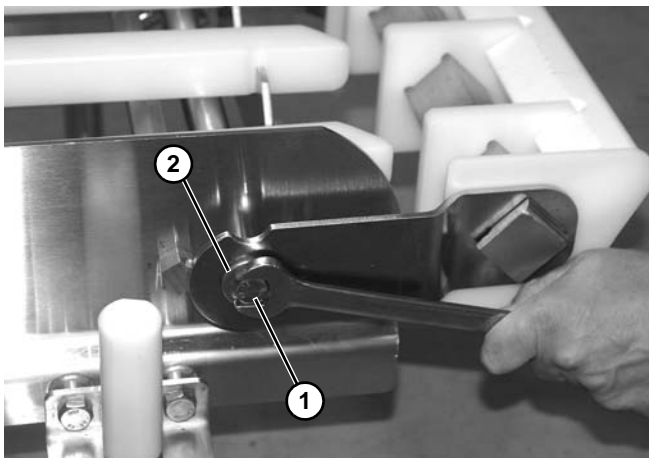

Figure 96
2. Remove screw (**Figure 96, item 1**) and washer (**Figure 96, item 2**) on each side of nose bar idler end.